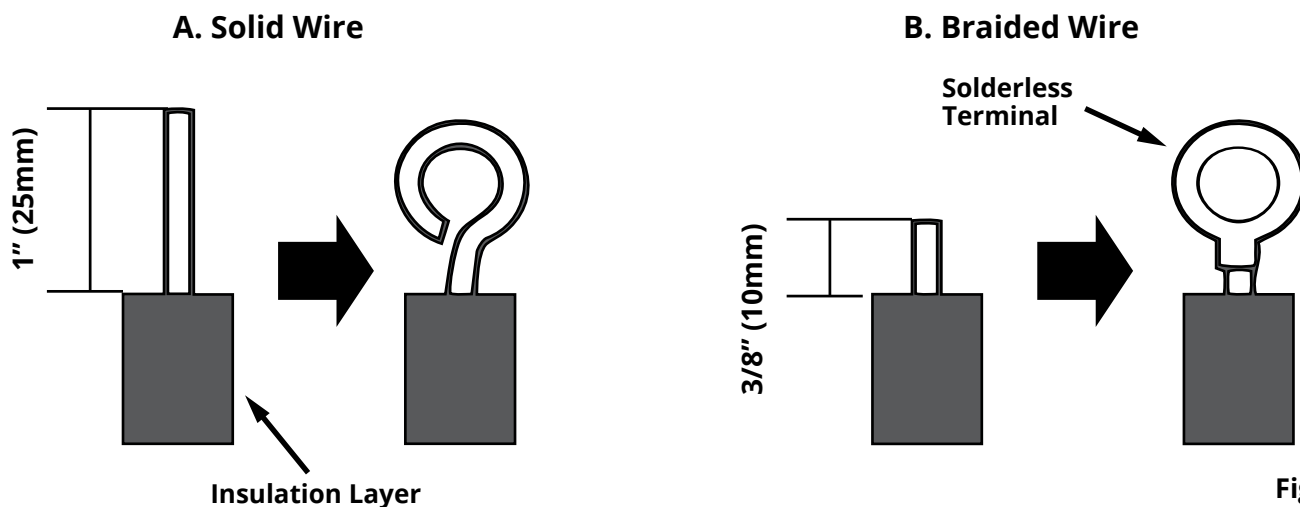
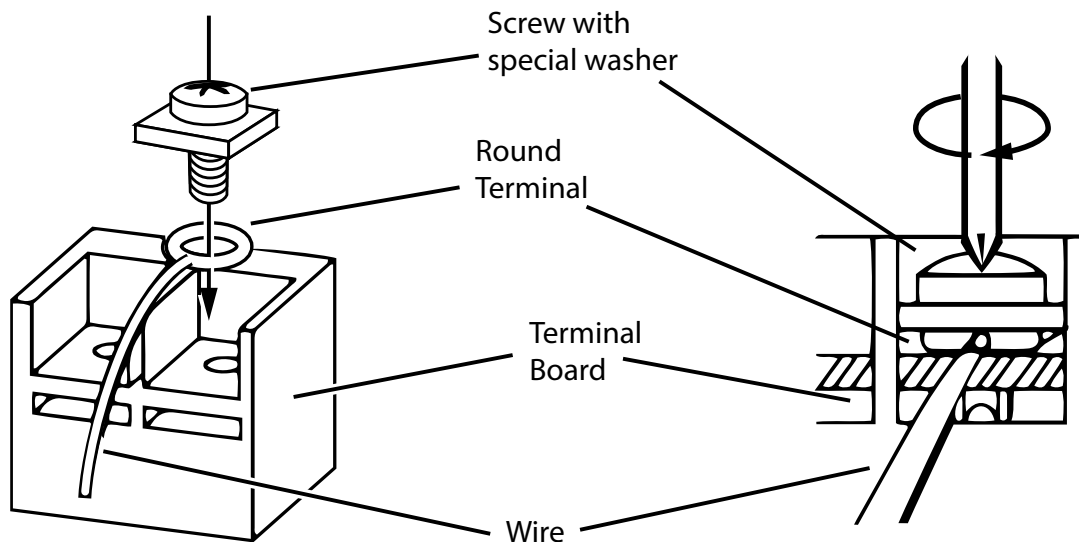

Fig. 2.26
Fig. 2.27
For solid wires (Refer to **Fig. 2.26 A**):
For braided wires (Refer to **Fig. 2.26 B & Fig. 2.27**):
4. Locate the round terminal conduit. Use a screwdriver to replace it and tighten up the terminal screw (as shown in **Fig. 2.27**).